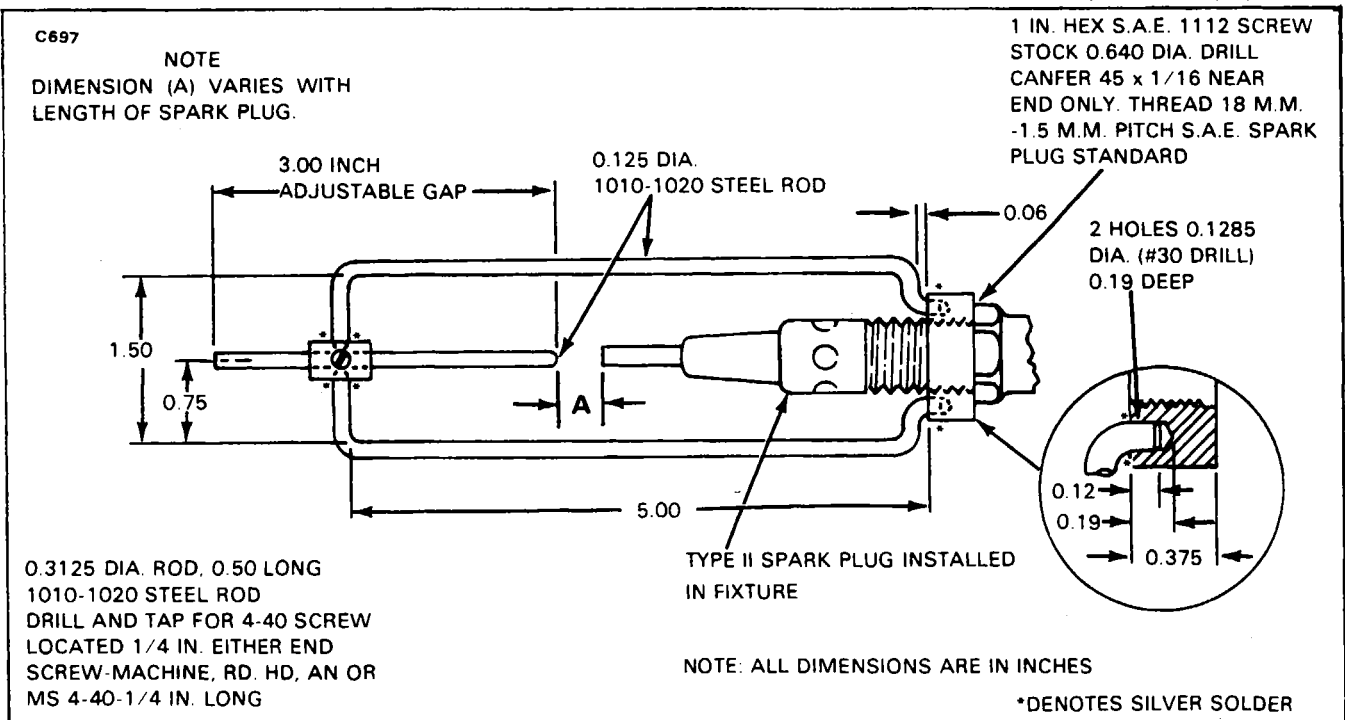

Figure 13-44a. Spark Plug Fixture
4. A spark gap of 0.187 of an inch +/-0. A convenient means of arranging the correct spark gap is to install a spark plug, P/N 39D18, in a test fixture arranged to provide a ground electrode and a .187 of an inch spark gap. (Refer to Figure 13-44a for information on fabricating this fixture.)
Any one of several spark plugs may be used with the spark plug fixture detailed in Figure 13-44a. However, the "A" dimension in that sketch must be varied with the length of the spark plug electrode to provide a gap of .187 of an inch for all spark plugs.